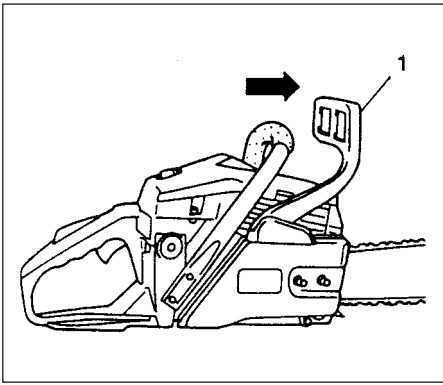

Fig.2-5
**Chain brake operation (optional) (Fig. 2-5)**